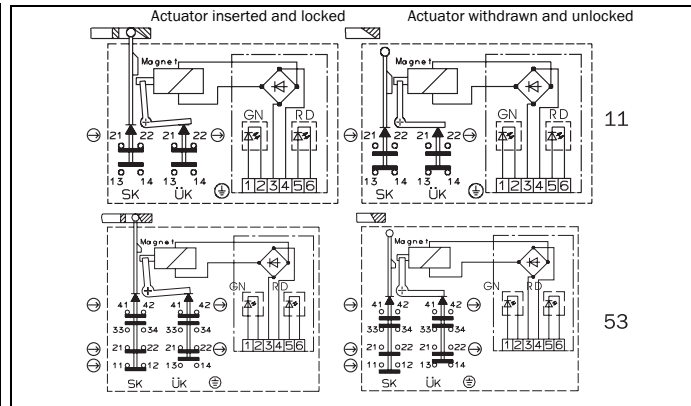

Fig. 2: Switching elements and switching functions
- Contact configuration see Fig. 2.
Application of the solenoid operating voltage causes the locking device to unlock the actuator/protective device. The locking device monitoring ÜK is opened. The green and red LEDs are illuminated (see Fig. 2).
It is only allowed to use switching elements marked with the positive opening symbol in the monitoring circuit ÜK for the safety circuit (see Fig. 2).
Switching off the solenoid operating voltage causes the locking bolt to unlock the actuator/protective device. Monitoring circuit ÜK is opened. The red and green LEDs are illuminated (see Fig. 2).